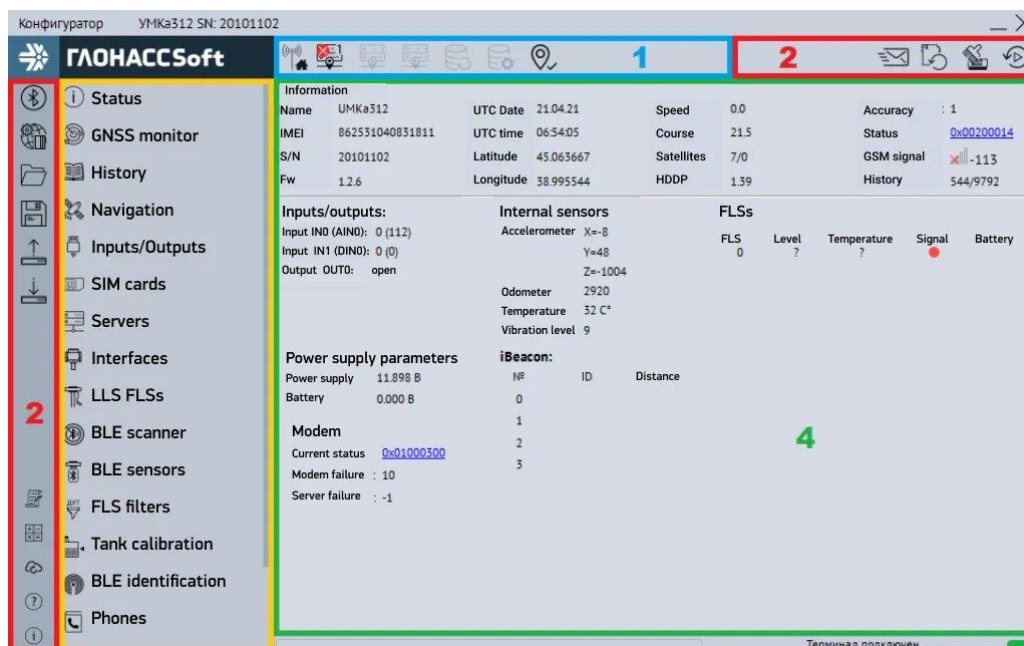

Figure 3.9 Startup window "Status"
To start the application, go to "Start" → "All Programs" → "Configurator UMKa3XX." The startup window of the configurator (Figure 3.9) opens, it can be conventionally divided into four zones: Status panel (1), Toolbar (2), Settings tree (3) and Data display window (4).
To view and edit tracker settings, use the settings tabs (Figure 3.9). When clicking a tab in the data display window, one can view the corresponding values and settings and edit them.
Tracker general information, status of inputs/outputs, external and internal sensors are displayed in the "Status" tab (Figure 3.9).